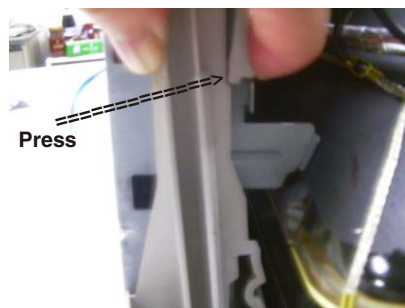

Fig. 10
- Remove main panel with bottom tray as shown in Fig. 10 to Fig. 14.